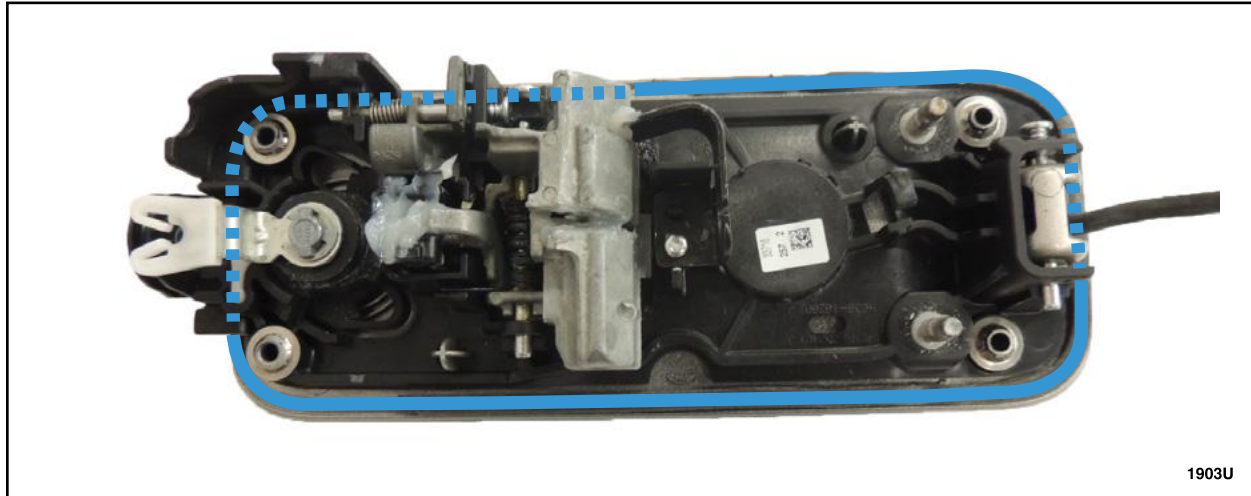

FIGURE 20
33. If present, thoroughly remove the foam gasket located around the perimeter of the exterior front door handle and the silicone from the latch side area of the exterior front door handle. See Figure 20.
34. Using a clean shop towel and isopropyl alcohol, clean the highlighted mating surface area of the exterior front door handle. See Figure 20.